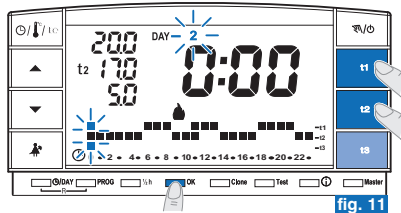

fig. 11
- If an error is made after having set the temperature for **Monday**, reset (you can use keys **▲▼** to move rapidly to the hour to be reset on the temperature range: the corresponding time is shown on the display) or press **OK** to confirm the program setting. When **OK** is pressed to confirm, the program set (for Monday) is saved in the memory and Tuesday (2) will blink together with the digits pertaining to the time **0:00** above the temperature range for the previous day (fig. 11).
- Press **OK** (e.g. fig. 11) to apply the same temperature range as for Monday: the same range will be set for **Tuesday** and day **3, Wednesday** and the digits corresponding to the time **0:00** will blink.